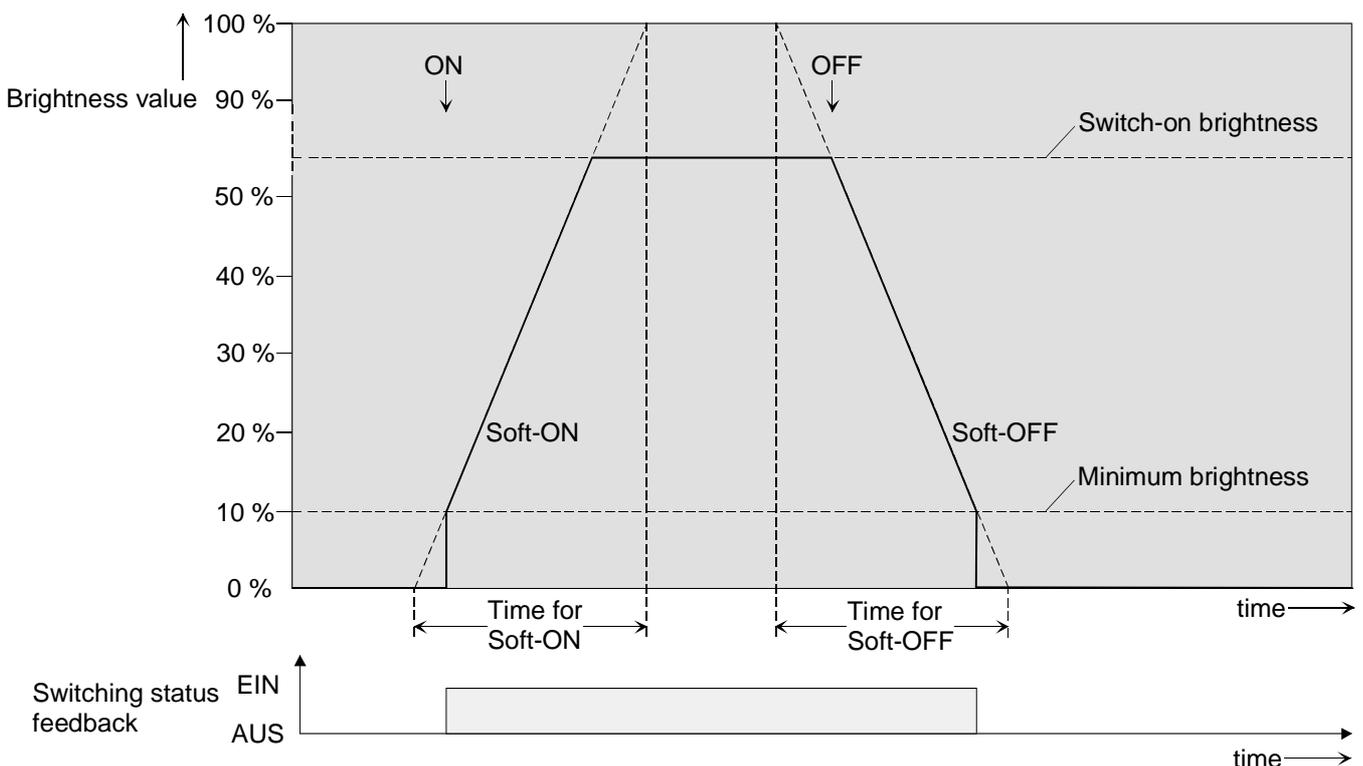

Figure 22: Dimming response of the Soft-ON/OFF functions
If a Soft-ON function is activated, dimming will be executed until the parameterized switch-on brightness has been reached. This will also be the case if the DALI group has been switched on to a brightness value that is smaller than the switch-on brightness value. If a Soft-OFF function is activated dimming will take place after receiving an OFF telegram until 0 % brightness is reached (cf. figure 22).
- The dimming of a Soft-ON function starts with the minimum brightness configured in the ETS plug-in. If a DALI group is switched off (brightness value = 0 %) and then switched on, the group will jump to the parameterized minimum brightness and will start the Soft-ON dimming with the switch-on brightness (cf. figure 22).